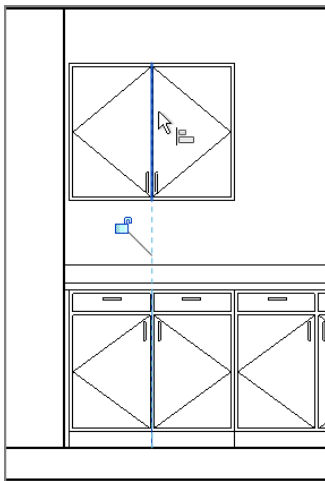

FIGURE 9.62: Adding the wall cabinet
3. Place the wall cabinet in the model, as shown in Figure 9.62. (Don't worry too much about aligning it to the cabinet below. You'll align it in elevation.)